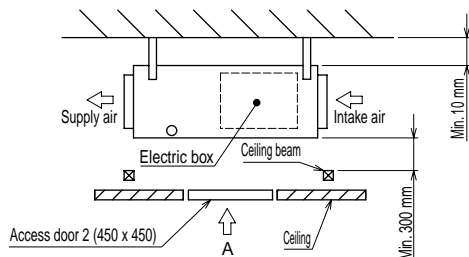

Fig. 1
(1) When a space of 300 mm or more is available below the unit between the unit and the ceiling (Fig. 1)